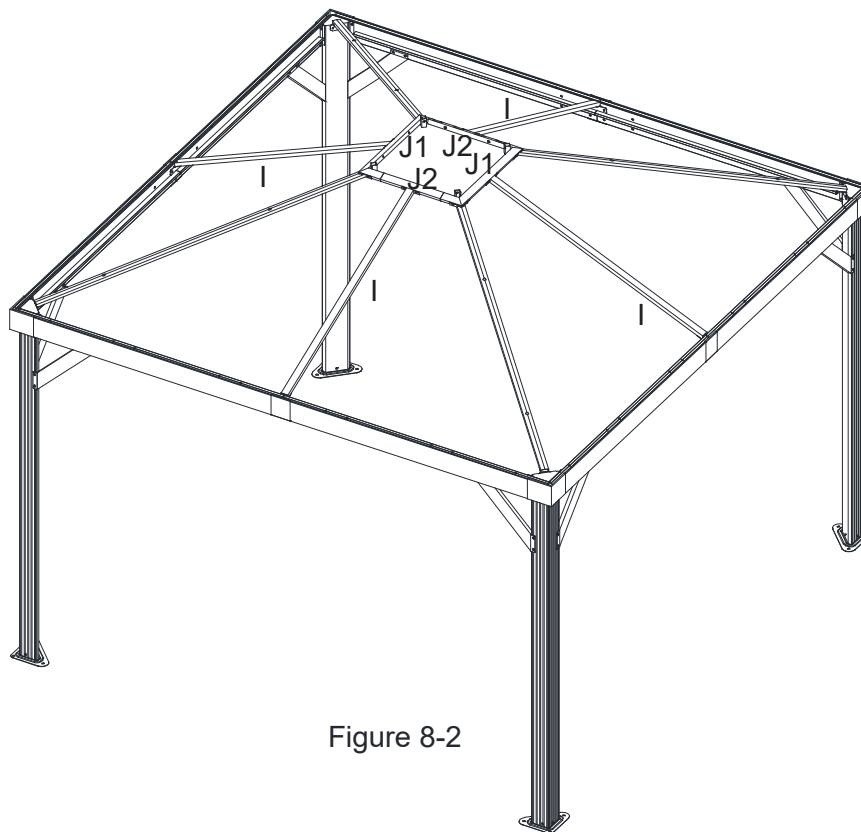

Figure 8-2
- 8.2 Repeat for opposite sides. Tighten All Bolts. See Figure 8-2.